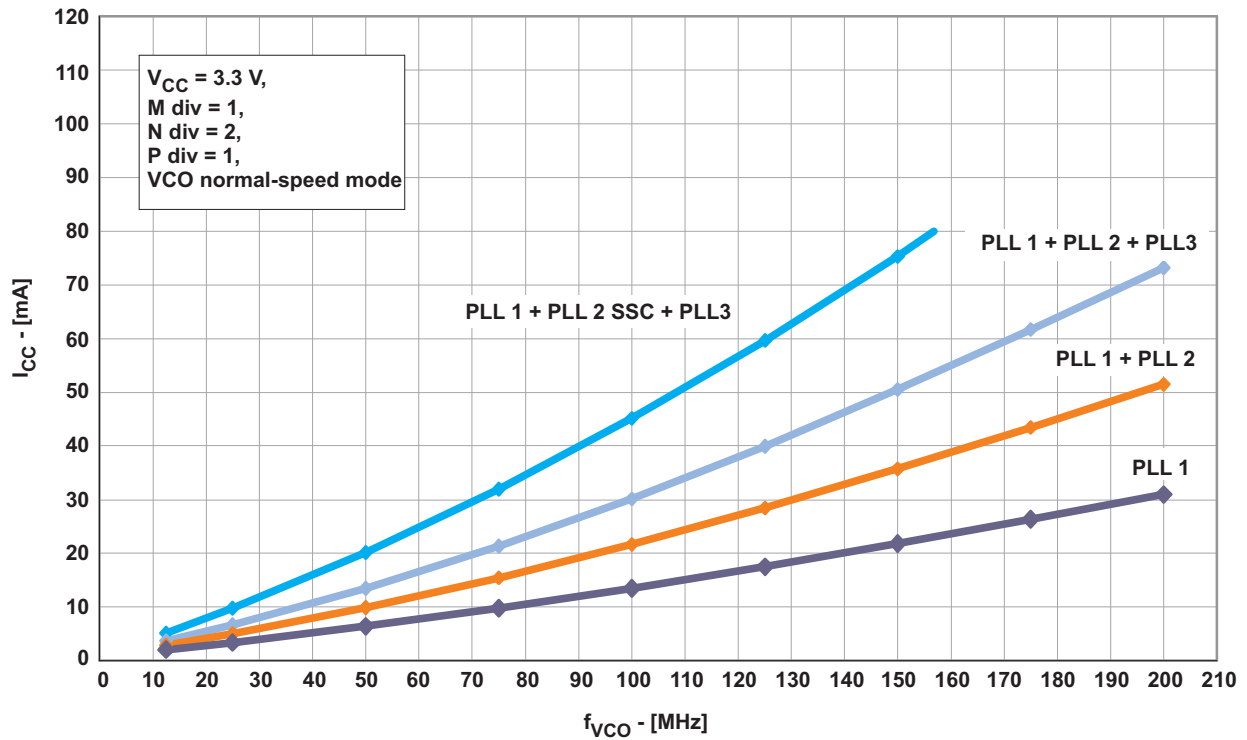
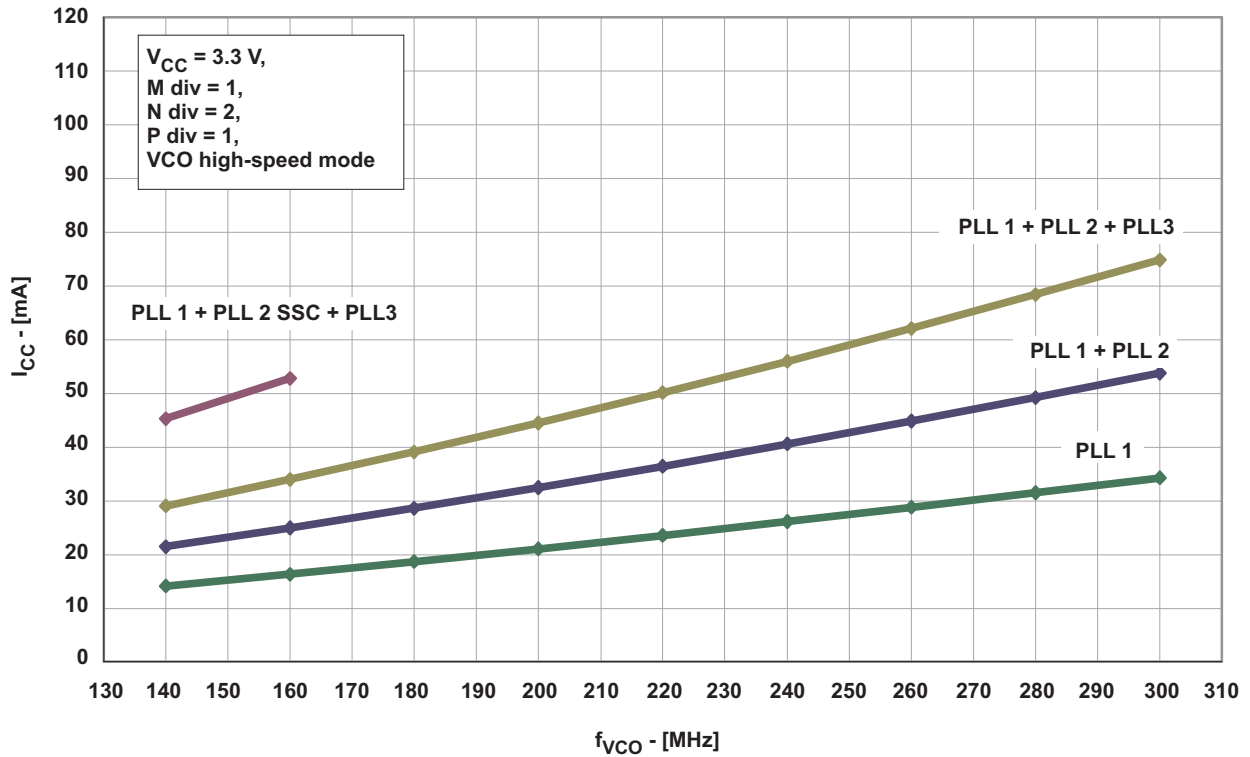
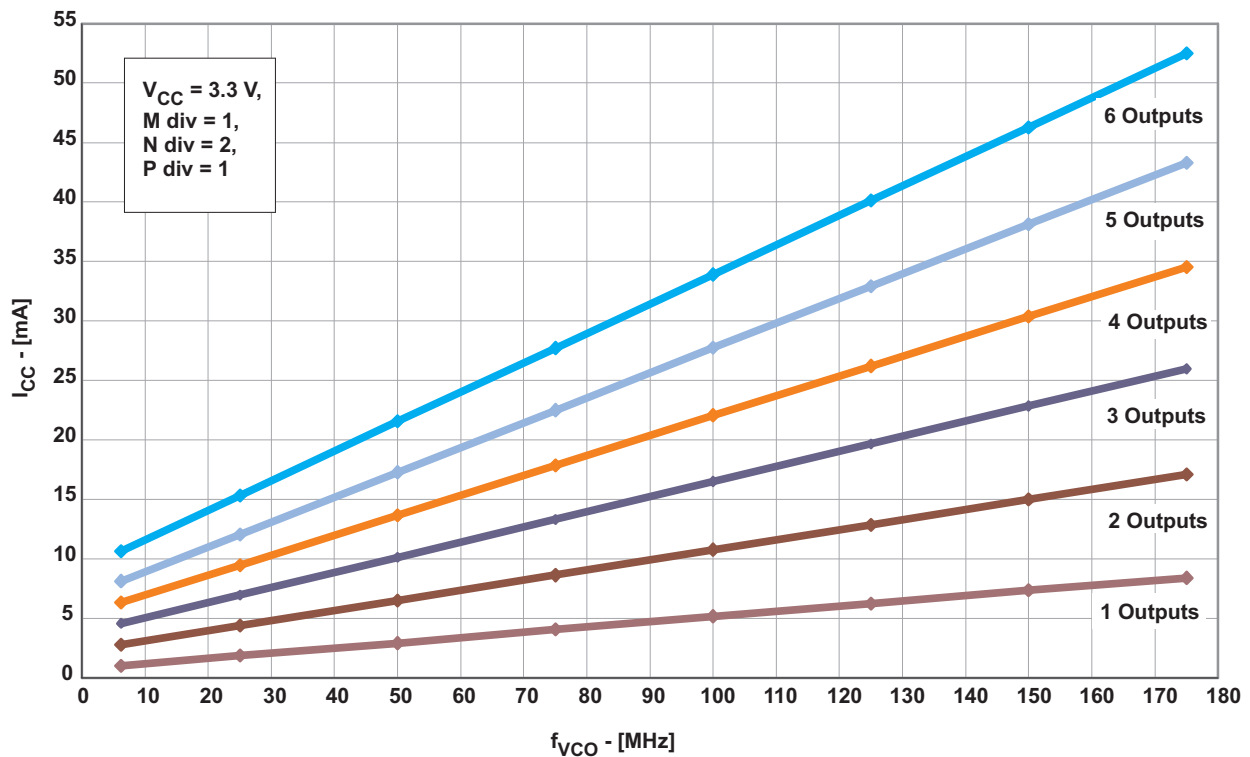
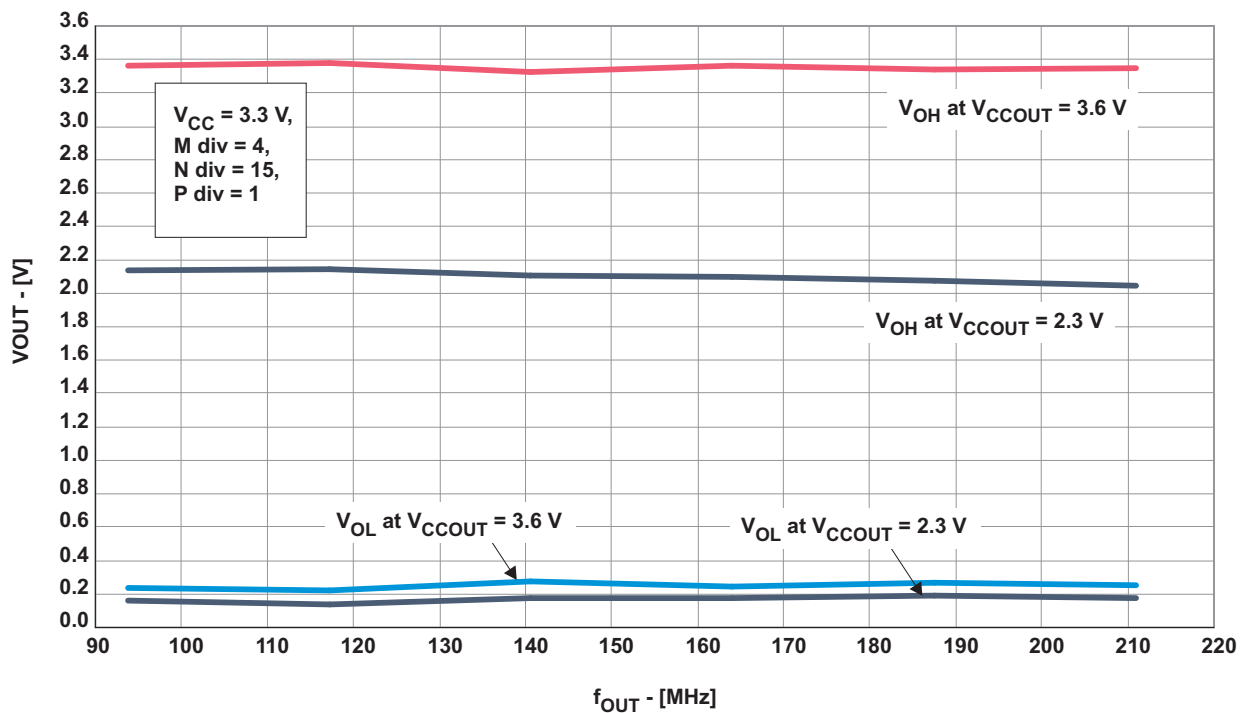

Figure 2. I_{CC} vs Number of PLLs and VCO Frequency (VCO at Normal-Speed Mode, Byte 6 Bit [7:5])
Figure 3. I_{CC} vs Number of PLLs and VCO Frequency (VCO at High-Speed Mode, Byte 6 Bit [7:5])
Figure 4. I_{CCOUT} vs Number of Outputs and VCO Frequency
Figure 5. Output Swing vs Output Frequency
| f_{OUT} | LVCMOS output frequency range(4), See Figure 4 | $V_{CC} = 2.5$ V | | | | 250 | MHz |
- (1) All typical values are at respective nominal V_{CC} .
- (2) For calculating total supply current, add the current from Figure 2, Figure 3, and Figure 4. Using high-speed mode of the VCO reduces the current consumption significantly. See Figure 3.
- (3) Normal-speed mode or high-speed mode must be selected by the VCO frequency selection bit in Byte 6, Bit [7:5]. The min $f_{(VCO)}$ can be lower but impacts jitter-performance.
- (4) The maximum output frequency may be exceeded, but specifications under the Recommended Operating Condition may change and are no longer assured. Do not exceed the maximum power dissipation of the 20-pin TSSOP package (600 mW at no air flow). See Figure 5.
- (5) 50000 cycles.
- (6) Jitter depends on configuration. Jitter data is for normal t_r/t_f , input frequency = 27 MHz, $f_{(VCO)} = 147$ MHz output.
- (7) The $t_{sk(o)}$ specification is only valid for equal loading of all outputs.